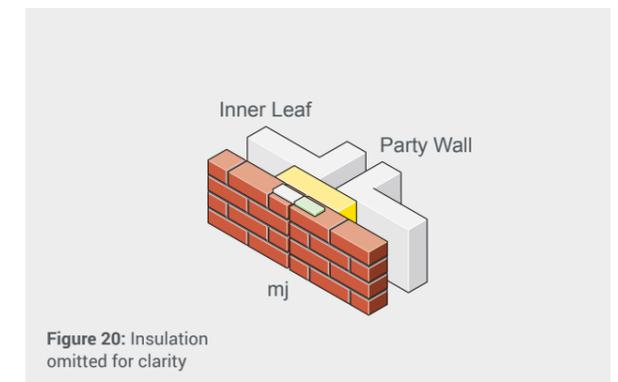

Figure 20: Insulation omitted for clarity
- Placing vertical joints at locations, where lateral support from party walls or load bearing internal walls exists, will assist in the stability and resistance to wind loading. *See Figure 20.*